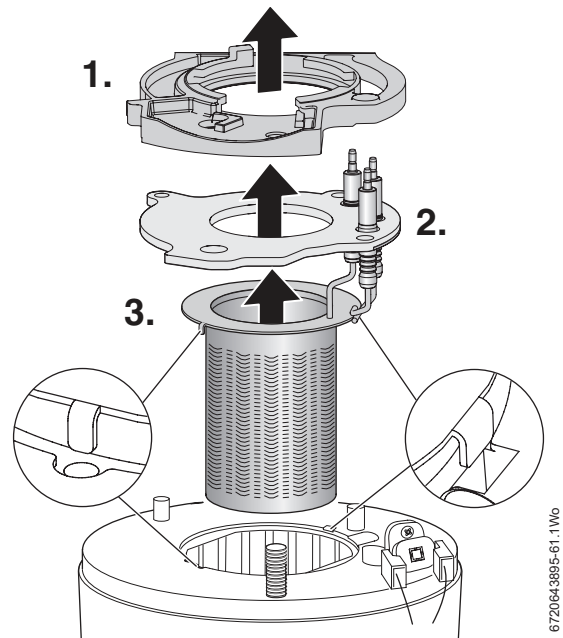

Fig. 86 Electrode assembly and burner
Refer to figure 86.
- ▶ Ensure that burner tabs, as shown in figure 86, fit correctly their respective locations.